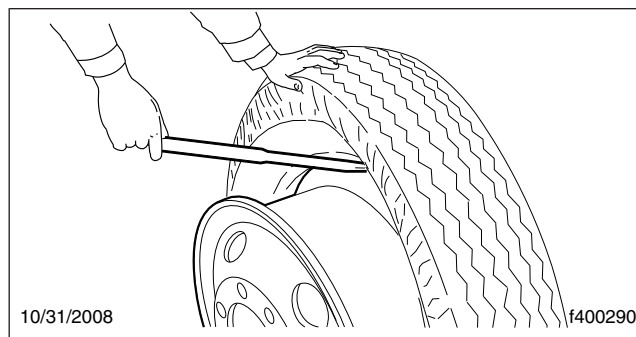

Fig. 5, Prying the Wheel Out of the Tire
- 4.3 Insert the straight end of the tool between the tire bead and the back wheel flange, hooking the tool over the second flange. See Fig. 5.